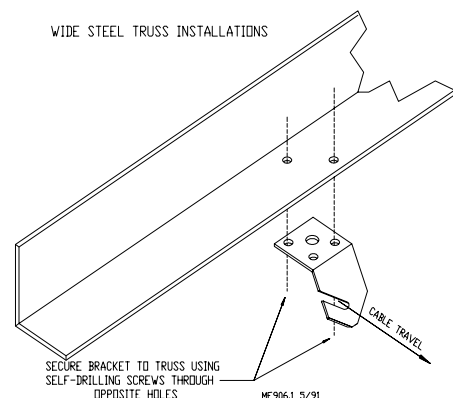

Figure 4.
1. The ceiling hook may be used in a variety of installations. Depending on your ceiling or rafter type, install the Ceiling Hooks as shown in **Figures 4 - 7**.